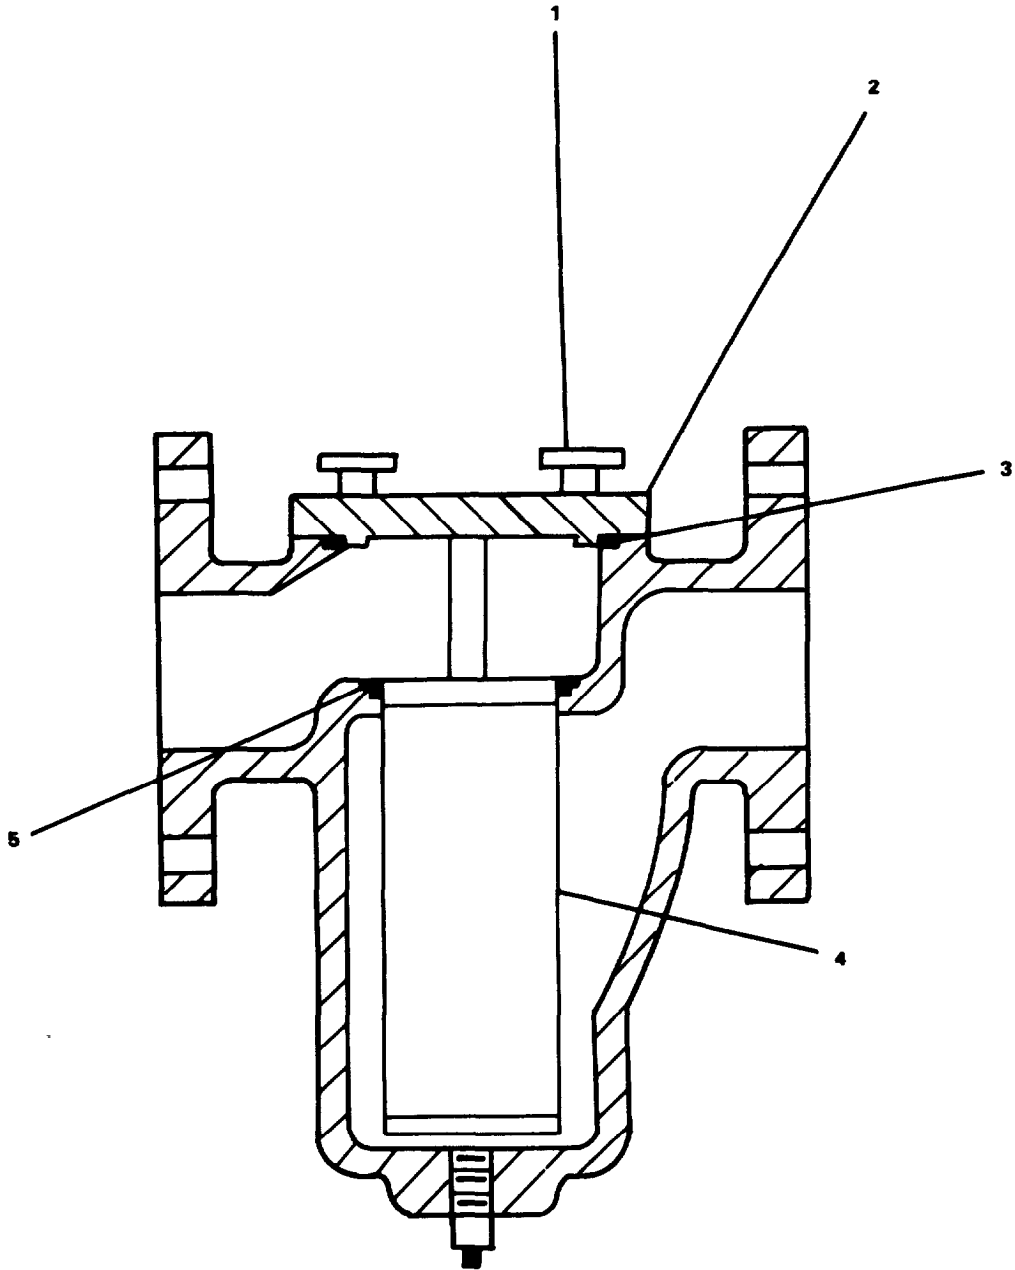

FIGURE 2-247. 2-1/2 Inch Sediment Strainer Basket, Repair.
- a. Turn knob (1, FIGURE 2-247) and remove cover (2).
- b. Remove cover gasket (3).
- c. Remove sediment strainer element (4).
- d. Remove basket gasket (5).
- a. Install basket gasket (5, FIGURE 2-247) and basket (4) in sediment strainer.
- b. Install cover gasket (3) and cover (2).
- c. Tighten knob (1).